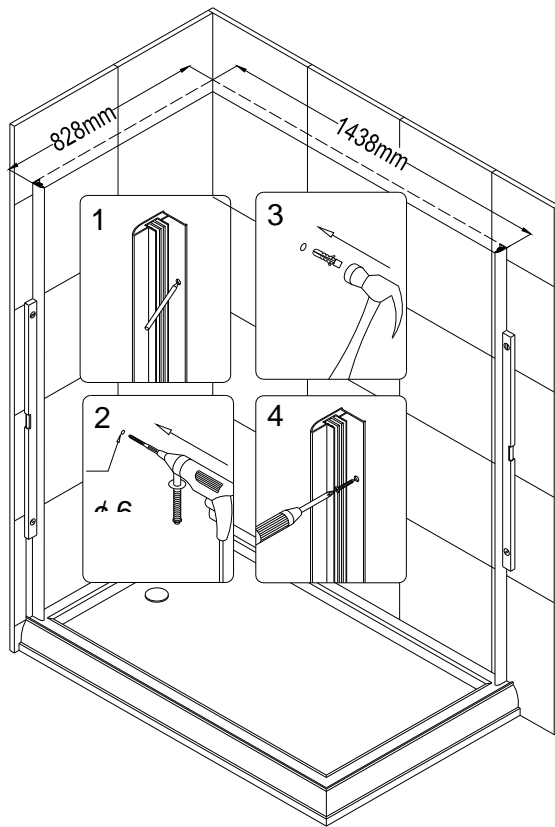

Fig 1
1. Start installation from the shorter wall. Locate the **Wall profile (01)** from the package then place it vertically above the tray 32 5/8" (828mm) from the corner to the external edge of the profile. Using a level adjust the profile upright, and then use predrilled into aluminum profile holes to put on marks for drilling. Now drill the holes and insert the **Wall anchors (19)** into the hole. Using **Round head screws ST4.2x30 (16)** to attach the wall profile to wall. See Fig 1 for details.